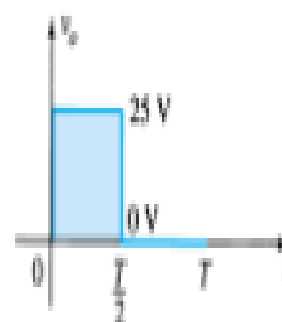

Figure 2.81 Sketching v_o for Example 2.21.
For $v_i = 20\text{ V}$ ($0 \rightarrow T/2$) the network of Fig. 2.79 will result. The diode is in the short-circuit state and $v_o = 20\text{ V} + 5\text{ V} = 25\text{ V}$. For $v_i = -10\text{ V}$ the network of Fig. 2.80 will result, placing the diode in the “off” state and $v_o = i_R R = (0)R = 0\text{ V}$. The resulting output voltage appears in Fig. 2.81.